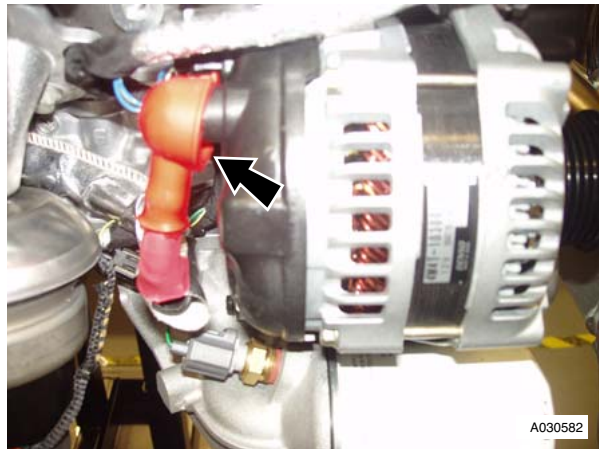

Figure 7
32. Release the terminal cover on the alternator. Remove the nut that attaches the battery cable to the alternator. (refer to Figure 7).